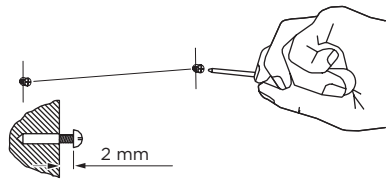

Fig.1
- Attach the upper hood mounting screws in the locations shown in Fig.2 and 3. Use the 60 mm screws and expansion plugs if attaching to masonry. Ensure that there is a 2 mm gap between the screw head and the wall - see Fig.1